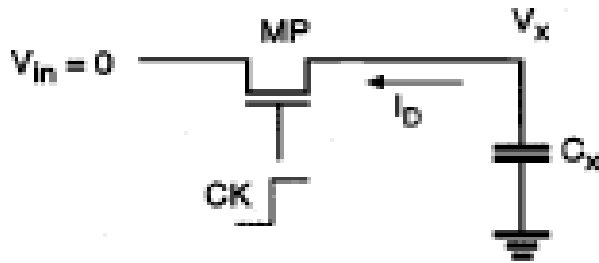

Fig.4: Equivalent circuit for the logic "0" transfer event.
- The circuit to be analyzed for the logic "0" transfer event can be simplified into an equivalent circuit as shown in Fig. 4. As in the logic " 1 " transfer case, the depletion load nMOS inverter does not affect this event.